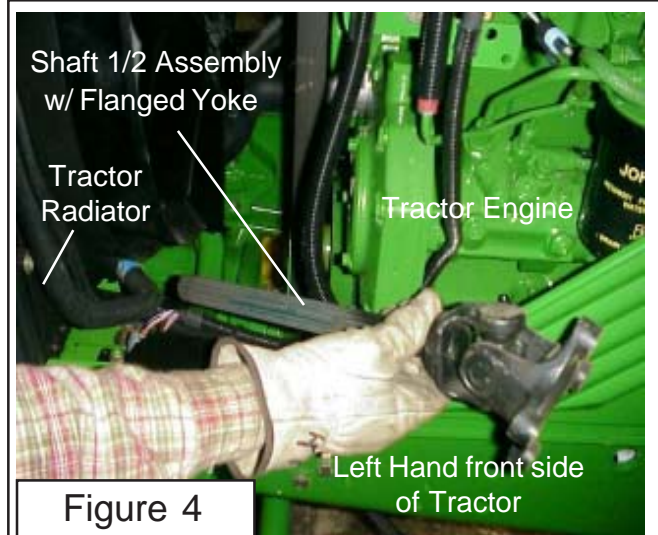

Figure 4
3. **Install Shaft End of Driveshaft / Engine end.** Install the Shaft 1/2 Assembly w/ Flanged Yoke into the Engine compartment of Tractor, install it from the LH front Side down and under radiator. (See Figure 4). This needs to be installed this way because the Flange Yoke will not go through the Crankshaft access hole in the front of the Tractor. Bolt the Flange Yoke to the Pulley Adapter using the four Bolts and Lock Washers, put Lockite on the threads of the Bolts when installing them into Pulley Adapter. To Tighten these four Bolts, use a long extension and go through the front Crankshaft Pulley access hole in front of Tractor if you cannot tighten them from the side. Do Not use bolts longer than the mount kit calls for, longer bolts will damage Crankshaft Pulley if they go completely through the adapter.